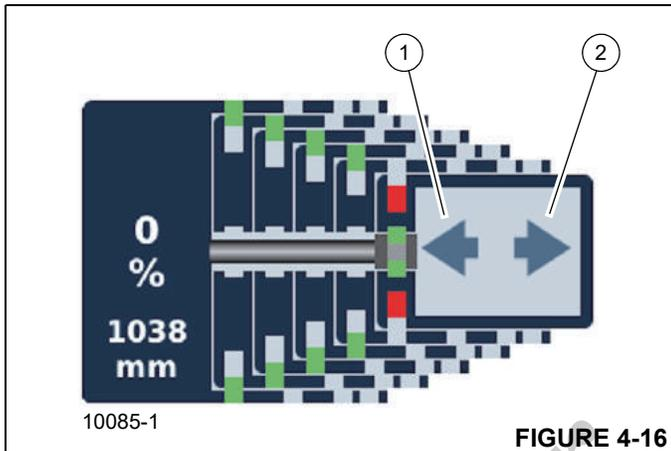

FIGURE 4-16
Telescoping will only start if left arrow for retracting (1, Figure 4-16) or right arrow for extending (2) is shown in the indicated location of the operating display screen (either the semi-automation or manual telescoping screen).